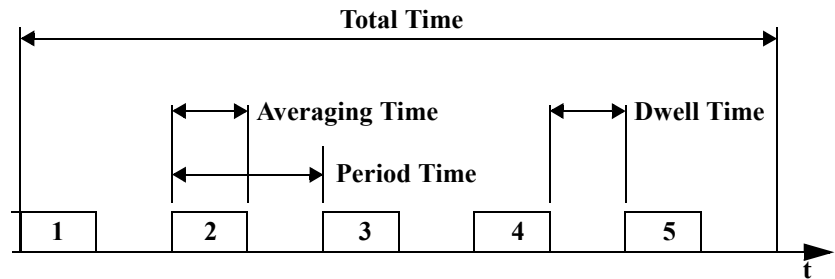

Figure 169 Example Stability Application
- The averaging time is less than the period time, there is a dwell time between the commencement of each power measurement, as shown in Figure 169 on page -274. This can happen because: